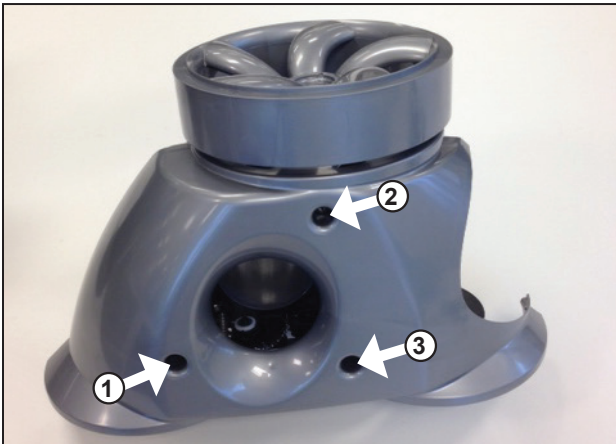

Figure 15. Remove three (3) screws
- Loosen the three (3) screws from underside of the Tune Up Kit (Figure 15). Tilt cleaner over and allow screws to drop out.